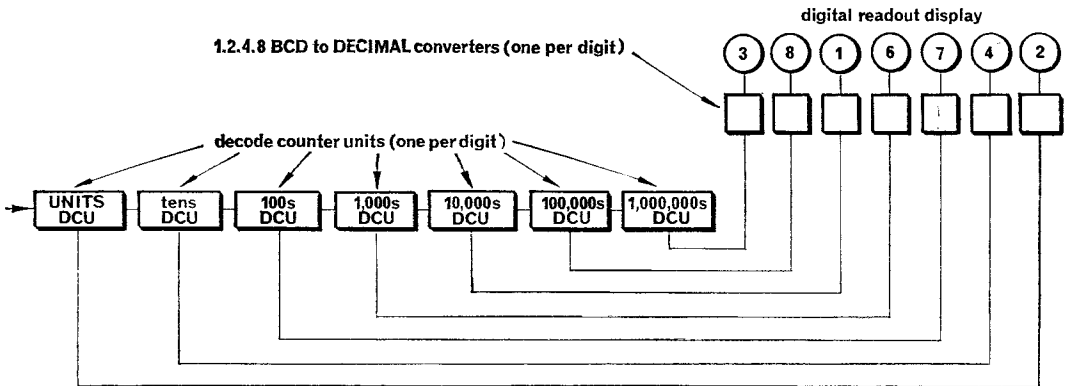

Fig. 5. Complete counter chain and display unit
7. **The complete counter and display unit.** A block diagram of the complete chain of decade counter units and the display system is shown in figure 5. There is one decade counting unit for each digit of the display and each counter is driven by the output from the previous counter so as to divide the input successively by stages of ten. The output from the counters is in 1.2.4.8. binary coded decimal and this is often fed to a multi-way output socket to act as the drive for a remote display or printing unit. To drive the instrument internal display digits a 1.2.4.8. b.c.d. to decimal converter must be used between each counter and its associated display digit. There are many different methods of conversion and display in use in commercial counters and a description of their operation is beyond the scope of this book.